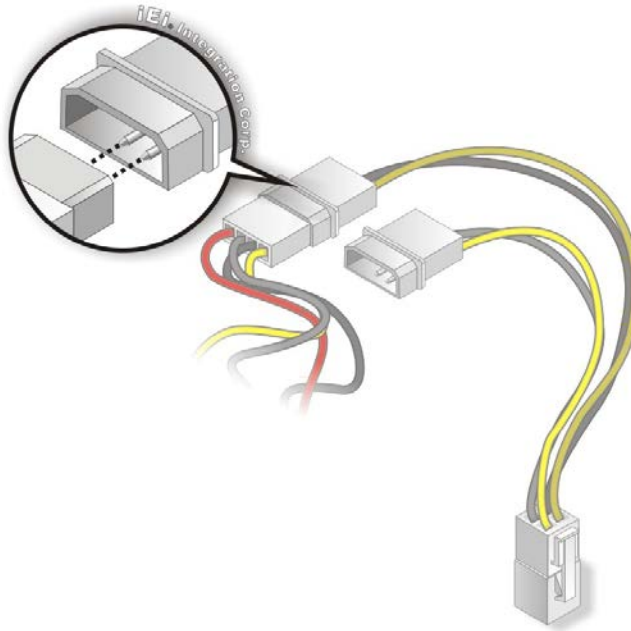

Figure 4-20: Connect Power Cable to Power Supply
Step 3: Connect power cable to power supply. Connect one of the 4-pin (1x4) Molex type power cable connectors to an AT power supply. See Figure 4-20.